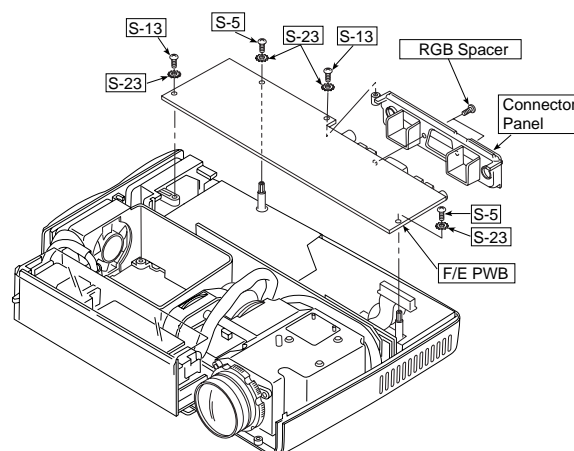

Fig. 6
- 6) F/E PWB (See Fig. 6.)
Remove the screw (S-13) and two screws (S-5) shown in Fig. 6, and disconnect the connectors.